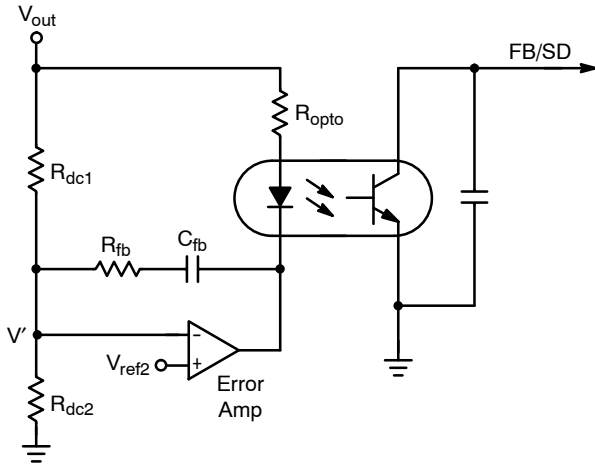

Figure 41. Error Amplifier Circuit
In the circuit of Figure 41, the amplifier and reference need to be rated at the maximum voltage that the output will experience, including transient conditions. Resistors R_{dc1} and R_{dc2} need to be chosen such that the voltage at V' is equal to V_{ref2} when V_{out} is at its regulated voltage. R_{opto} is a current limiting resistor that protects the optocoupler from current transients due to output surges.